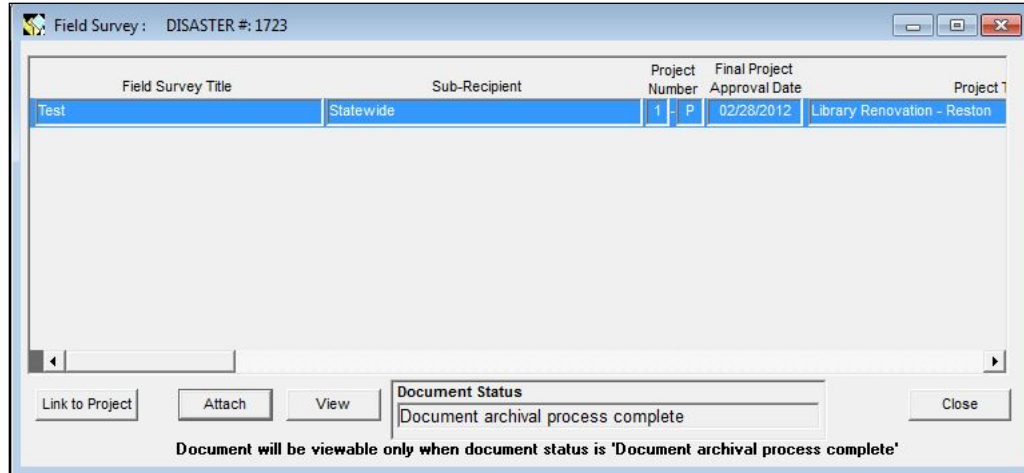

Figure 11-6: Field Survey Screen with New Document - Left
7. Click the OK button. The field survey document title is displayed on the left-most column of the Field Survey screen (Figure 11-6).